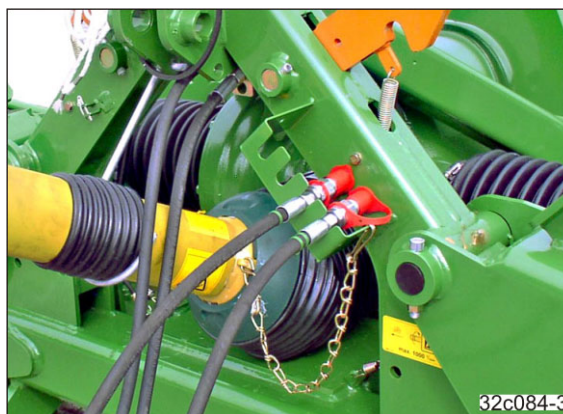

Fig. 78
10. Fasten the supply lines to the hose cabinet (Fig. 78).